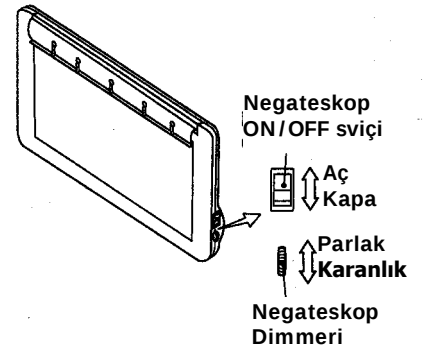

Fig. 3-16 Panorama Hacimli Negateskop
- (7) Dental Hacimde Negateskop (Fig.3-16)